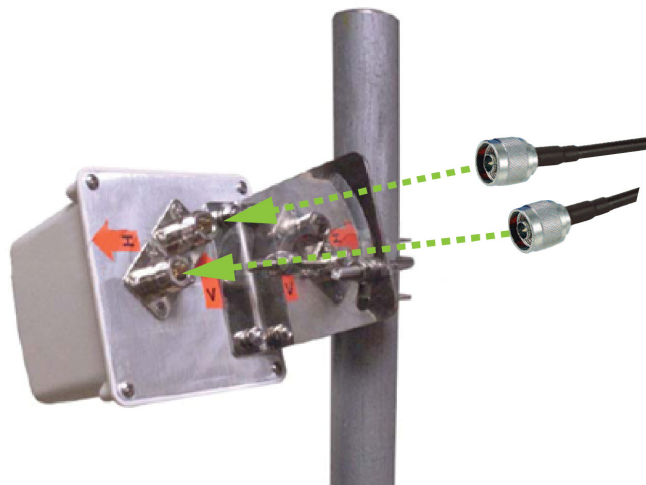

Figure 25. Installing Antennas to the Access Point
3. Connect cables to the connectors on the back panel of the antenna as shown in Figure 25.